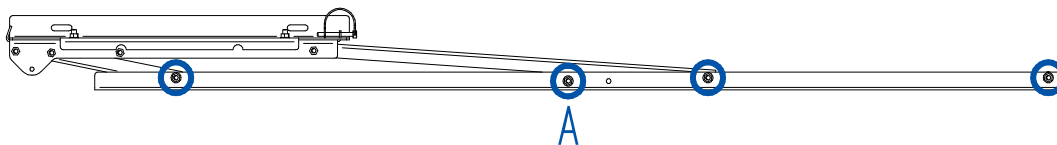
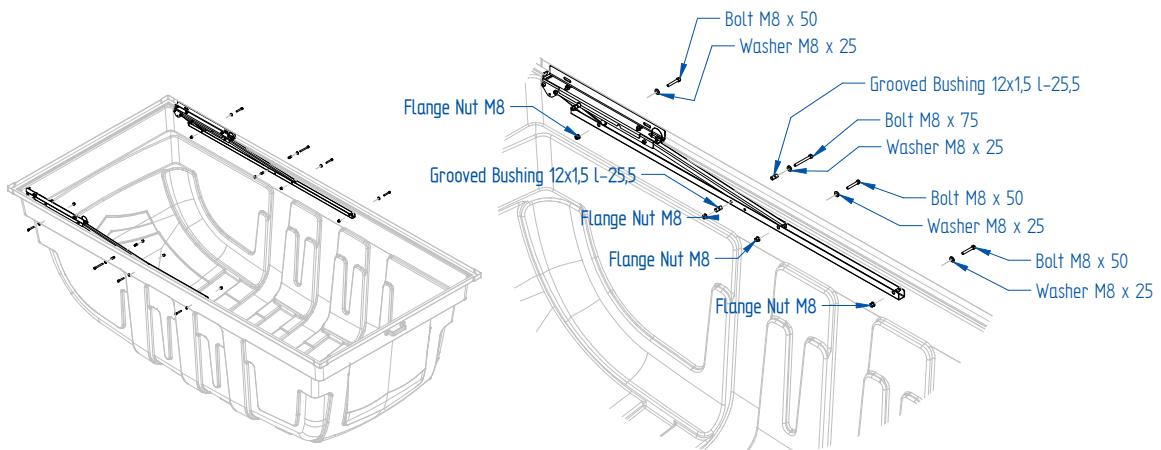

Figure 12
Figure 13
7.3.2. Fasten the **right** and **left** hinge to the plastic cover using M8x50 bolts + M8x25 washers + M8 flange nuts. At the position A, also **install 2 bushings** (Figure 12). Use washers under bolt head and flange nuts on the inside (figures 13)